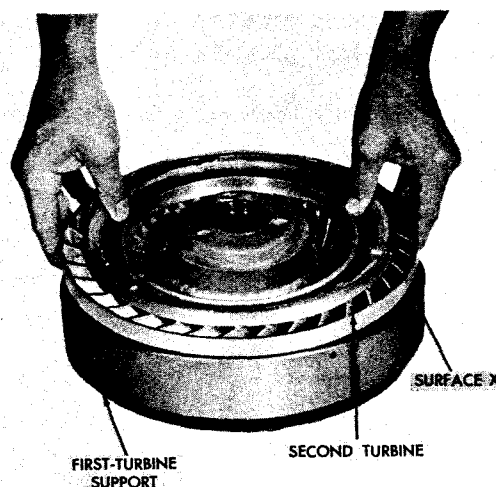

Fig. VI-4. Removing (or installing) second turbine from first-turbine support
(2) Remove second turbine 5 and ball bearing 4 as an assembly (fig. VI-4). Do not remove the ball bearing from the turbine unless necessary. If necessary, pull or drive the bearing from the turbine.
(3) Do not remove ball bearing 1 (A, foldout 3) from first-turbine support unless necessary. If necessary, pull or drive the bearing from the support.
(4) Remove remaining eight bolts 11 from converter pump assembly 14. This will allow six strips 12, pump retainer 13, pump gasket 16, double-row ball bearing 17 and the input accessory drive gear 18 to be removed as individual pieces.